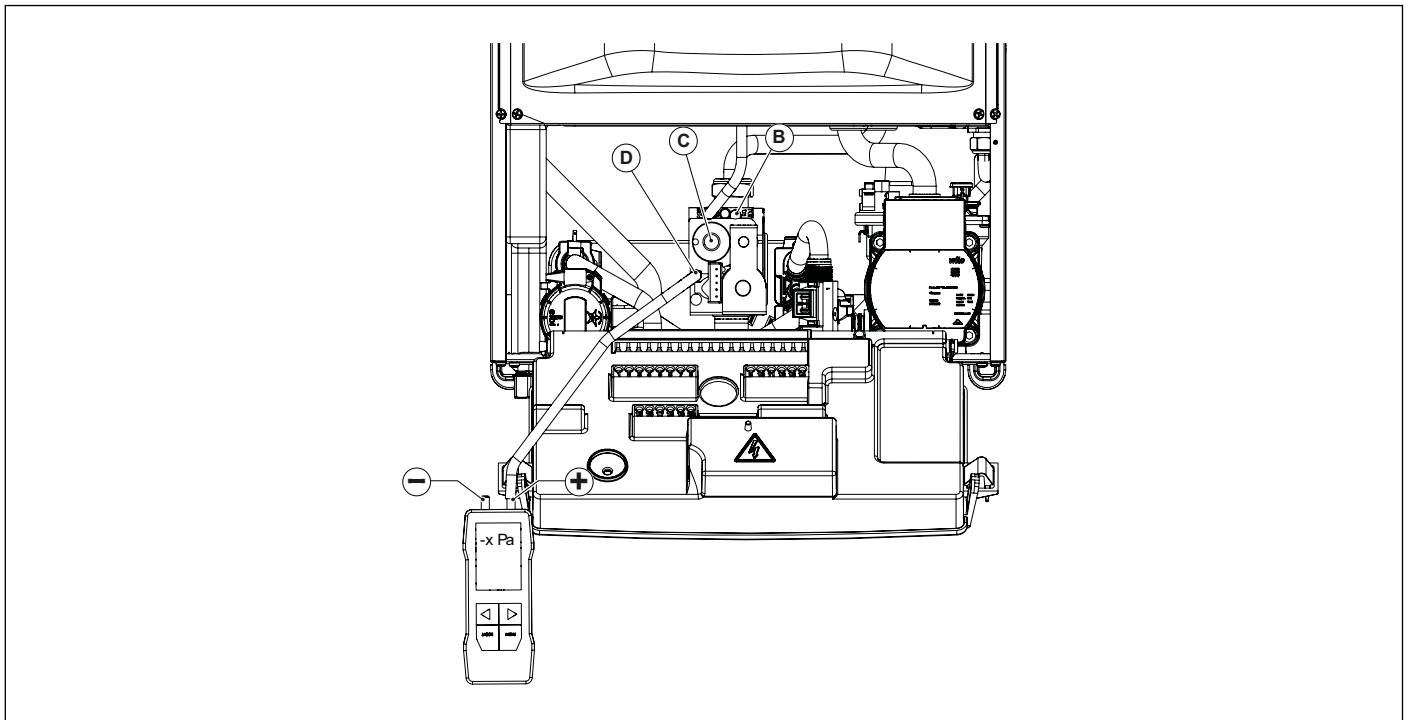

Fig. 35 Offset pressure adjustment
- Open the screw of the offset pressure pick-up point **D** and connect it to the positive input (*) of the differential pressure gauge (see Fig. 35 Offset pressure adjustment).